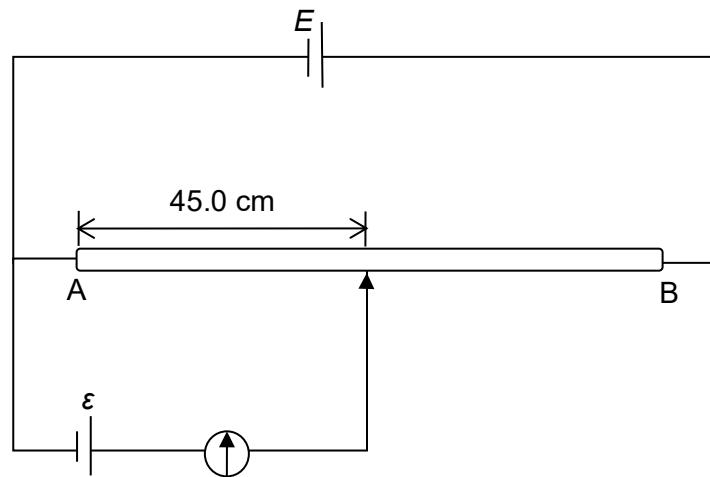

Fig. 5.4
- (iii) The appliance is removed and replaced with a cell of unknown e.m.f. ε and a galvanometer is connected in series with the cell, as shown in Fig. 5.4.